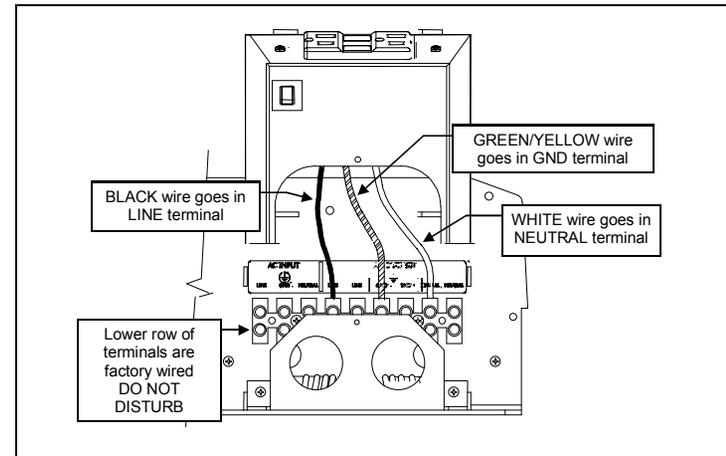

Figure 1: Connecting the GFCI Wiring to the Prosine's AC Wiring Terminals
5. Connect the wires on the GFCI Receptacle / Wiring Cover assembly to the Prosine as shown in Figure 1 below. The GFCI Receptacle / Wiring Cover assembly is provided with 3 pre-stripped wires for connection to the Prosine's AC Output terminals: one black, one white, and one green with a yellow stripe. The upper row of the Prosine AC terminal block should have 3 unused "AC Output" terminals, marked Line, Neutral, and Ground (there will be 6 unused Output terminals if you do not have a load circuit connected to the terminal block already). The following color code must be observed while making the connections from the GFCI Receptacle / Wiring Cover assembly to the Prosine AC Output terminals: